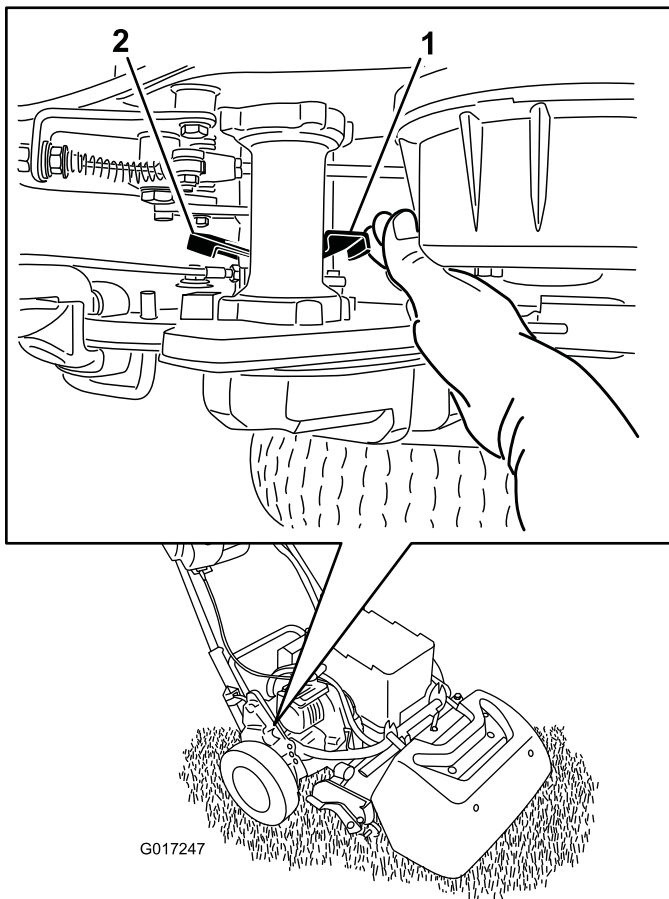

Figure 35
1. On the right rear corner of the machine, locate the traction engage/disengage lever next to the drive housing drum (Figure 35).